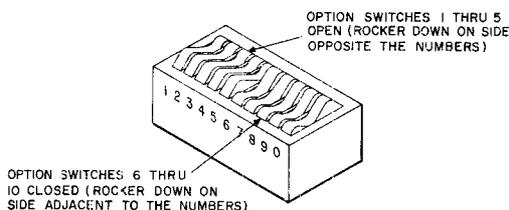
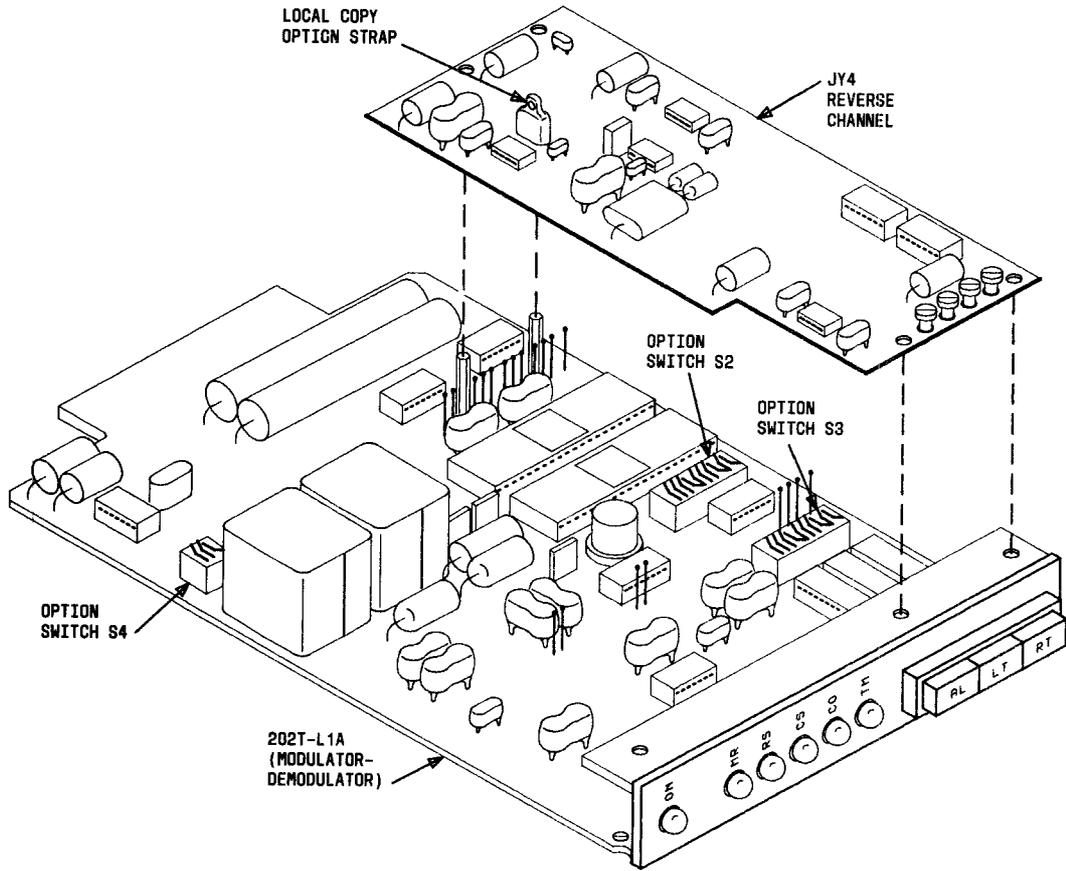

Fig. 1—Option Switch
Fig. 2—Location of Option Switches
**2.02** Options are installed and removed by means of switches (Fig. 1) and straps (DS 202T-L1 only) on the data set printed wiring board (Fig. 2), by a strap on the reverse channel circuit pack (when provided), and by a screw switch on the backplane (frame ground to signal ground option). Refer to Table A or B for the switch settings and strap positions for the various options. Refer to Table C for the recommended options for a DS 202T-type used on 2-wire private line or 4-wire private line with talk-back. Refer to Table D for the recommended options for a DS 202T-type used on 4-wire point-to-point and multipoint systems without talk-back.